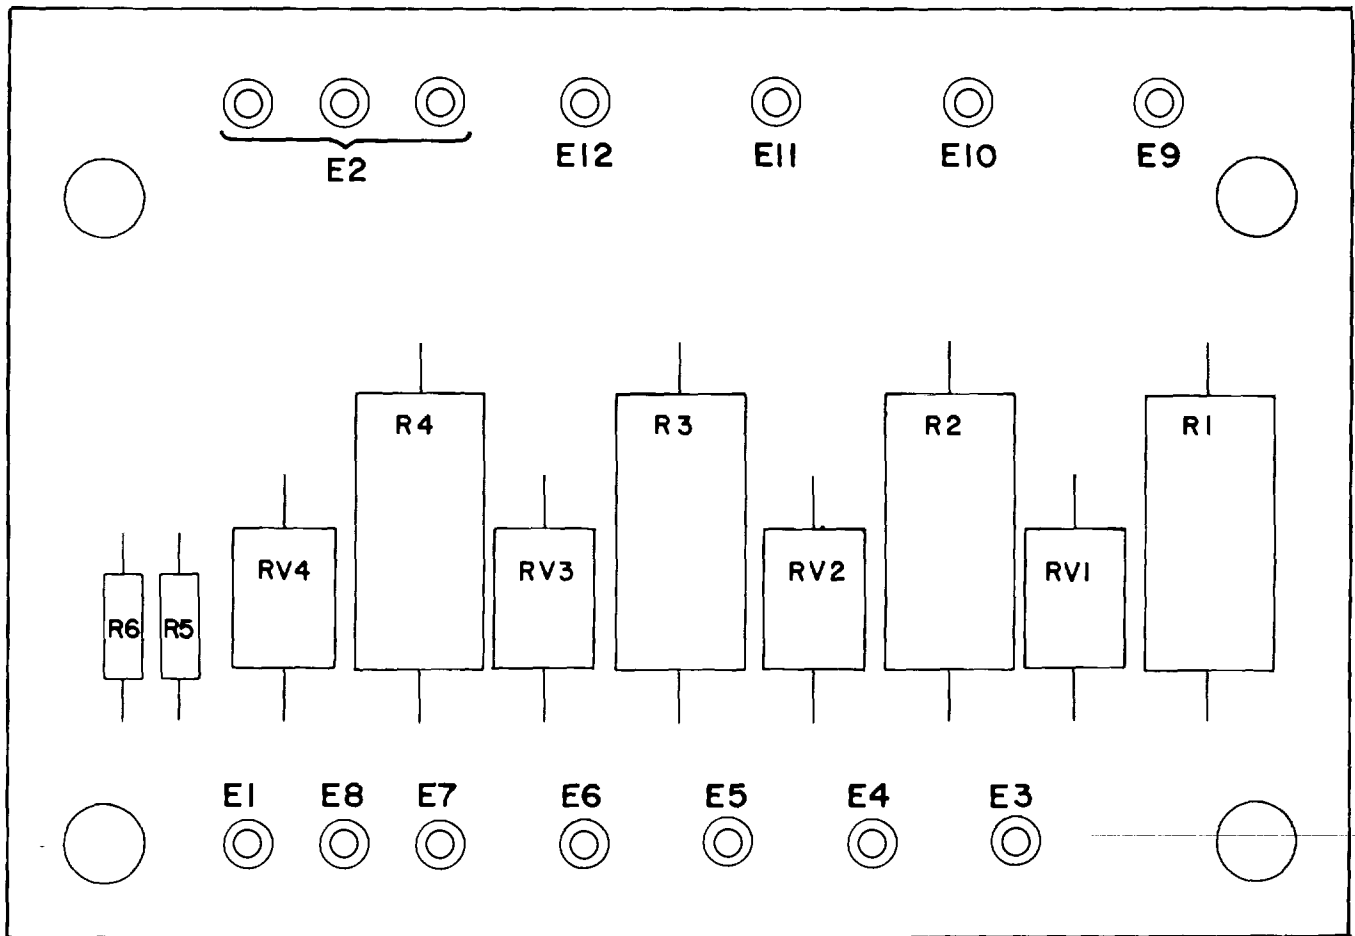

Figure 8-5. Voltage Surge Suppressor Circuit Card Assembly, 4A4 Parts Location Diagram
e. Voltage Surge Suppressor Circuit Card Assembly (4A4) Disassembly. This circuit card assembly should be removed only when servicing or component replacement is required. To remove this circuit card assembly, perform the following procedures. Further disassembly should be limited to removal of parts for repair or replacement. Refer to figure 8-5 for location of components to be replaced.
- (1) Remove four screws, washers and electrical spacers holding the voltage surge suppressor circuit card assembly to the front panel.
- (2) Disconnect the 14 wire leads from the voltage surge suppressor circuit card assembly.
- (3) Remove the voltage surge suppressor circuit card assembly from the chassis assembly.